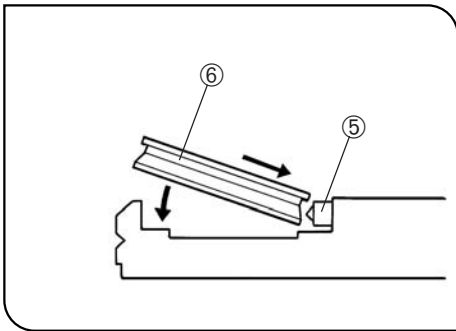

Fig. 48
4. Hold a phase contrast ring and, while pushing the spring ⑤ inside the turret with the edge of the phase contrast ring ⑥, insert the ring completely in the turret position until the ring frame contacts the bottom of the position. (Fig. 48)